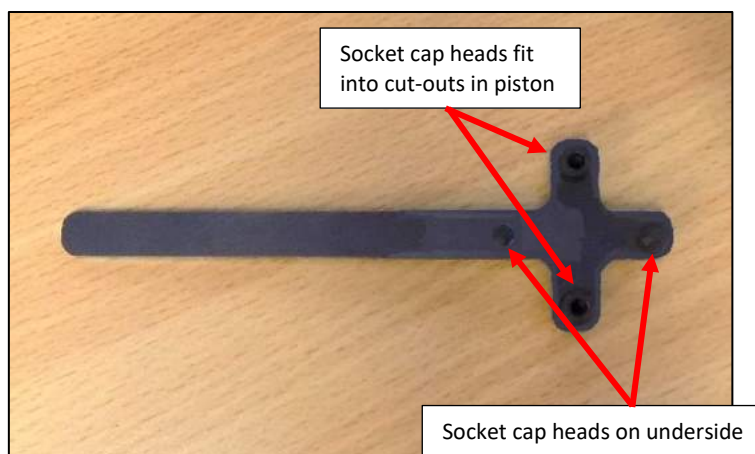

Figure 66
11. Carefully wind the piston into the piston bore using special tool (Figure 66).